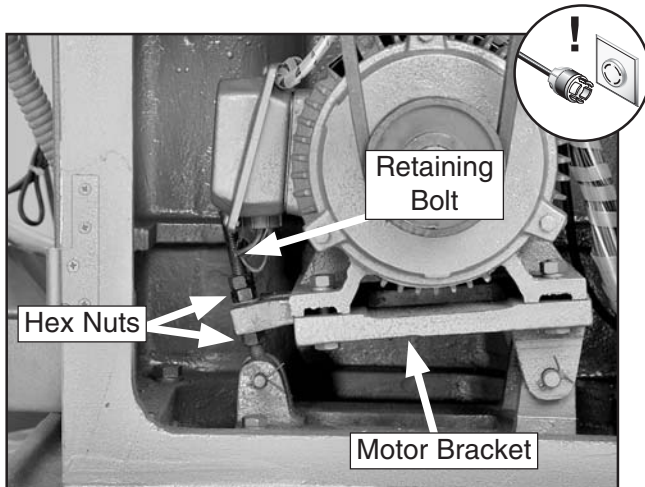

Figure 87. Model G0615 horizontal spindle motor retaining bolt.
3. Use an 18mm wrench to loosen the top hex nuts on the motor retaining bolts (see **Figure 87**).